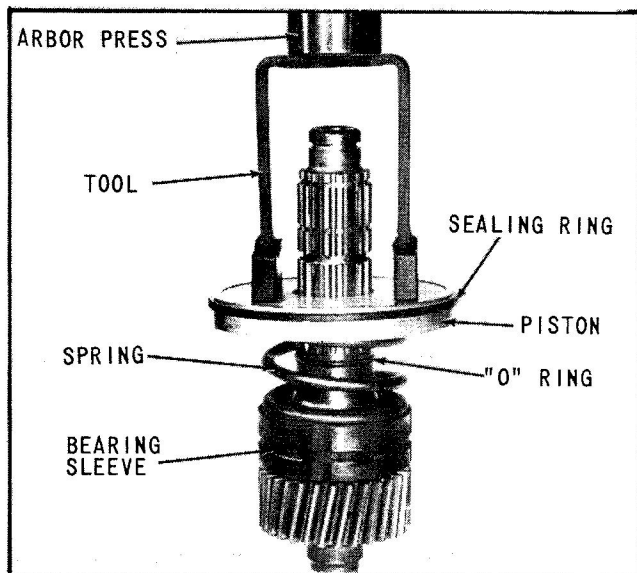

Fig. 36 Clutch Parts Assembly
8. Install rubber clutch "O" ring on output shaft, (Fig. 36).
9. Place clutch piston return spring on shoulder of bearing sleeve, (Fig. 36).